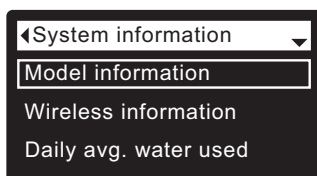

FIG. 61
3. Press the SELECT (O) button to display the System information menu (See Figure 61).
7. When finished viewing an information screen, press the SELECT (O) button. The display will go back to the System information menu (Figure 61). It will also exit automatically if no buttons are pressed for four minutes.